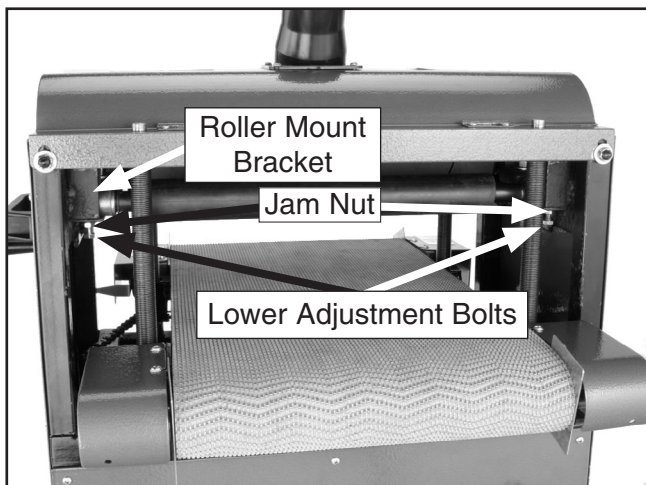

Figure 33. Pressure roller adjustment hex nuts.
The pressure rollers are factory set at 0.080" (2mm) below the bottom of the sanding drum and are fully adjustable either up/down with the four lower adjustment bolts (**Figure 33**). After the adjustment has been made, always lock the jam nuts against the bottom to prevent them from moving.
- Tighten the jam nuts (**Figure 33**) to lock the adjustment.